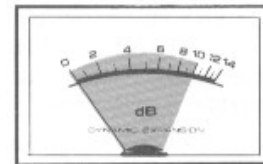

Fig. 3
2. Set the PROCESSOR switch to ON (upper position), advance the input level control to where the meters read 9 to 10dB on loud level passages. See Fig. 3. (If playing a record, a setting around 2 o'clock is generally correct.)